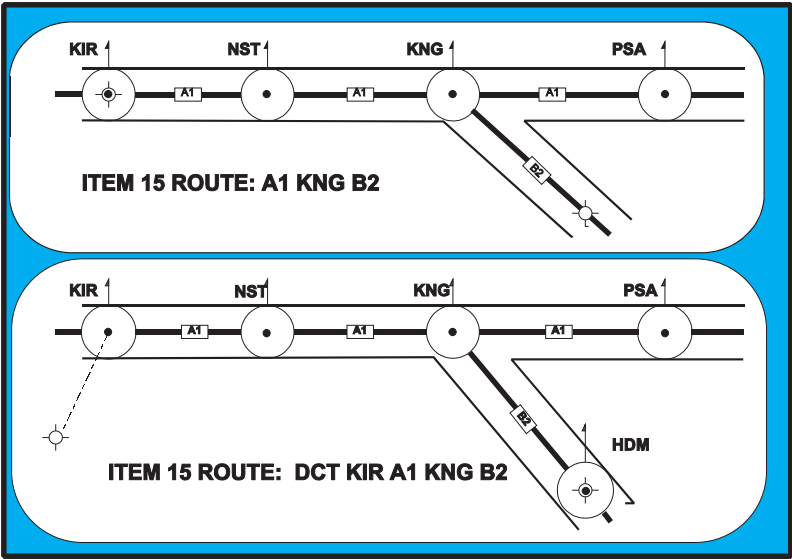

Figure 12.2 Use of DCT
- If a **departure airfield is located or connected** to the ATS route then the **coded designator** of that route will be the first entry. If it is **not on or connected to** the ATS route the first entry will be **DCT** followed by the **joining point**, followed by the **designator** of the ATS route. (*Figure 12.2*)